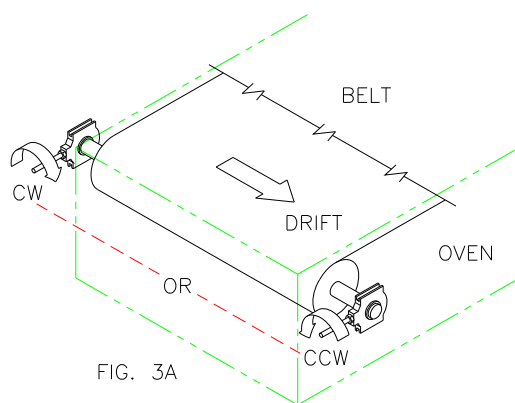

FIG. 3A
- C. Drift compensation is made by turning the bearing take-up nut on the side of drift counter clockwise. The same correction may be realized by turning the bearing take-up nut opposite the direction of drift clockwise. (See Figures 3A & 3B).